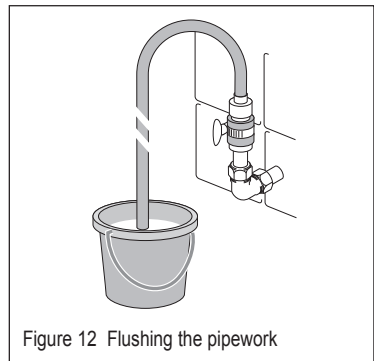

Figure 12 Flushing the pipework
- 5.14 It is essential to flush the pipe in order to clear debris, particles of solder and swarf - see Figure 12.